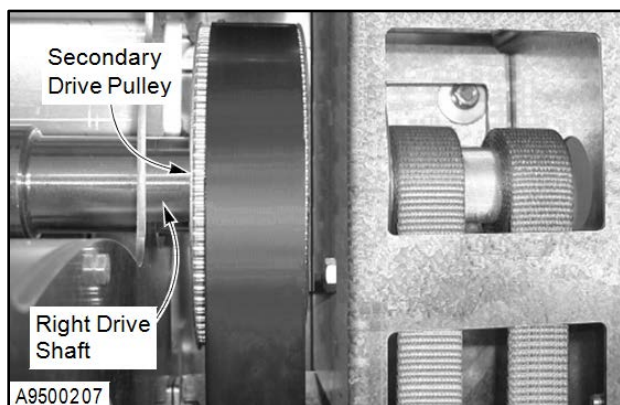

Figure 26
8. Inspect the hardware used to attach the secondary drive pulleys to the left and right drive shafts. Tighten the hardware as required. Replace any missing or damaged hardware. (See Figure 26.)